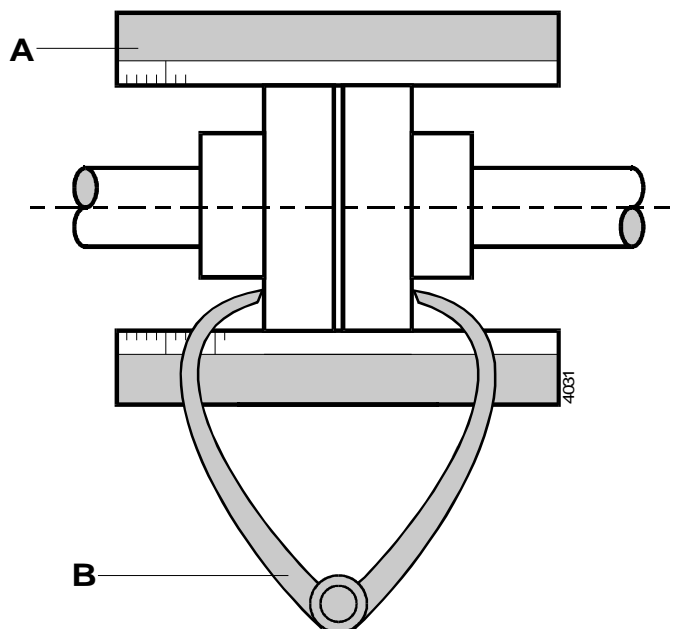

figure 13 Aligning the coupling by means of a ruler and a pair of outside calipers.
Then check the alignment of pump and motor shafts and realign, if necessary, according to the instructions in figure 13.
- 1 Place a ruler (A) on the coupling. The ruler should touch both coupling halves across the whole width. See figure 13.
- 3 For all security the alignment is also checked with a pair of outside calipers (B) at 2 diametrically opposite points of the side surfaces of the coupling halves. See figure 13.